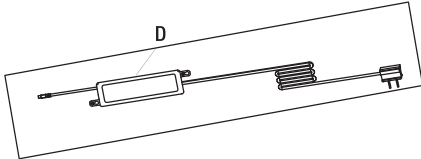

Figure 1
- Secure the LED driver (D) to the mounting surface via keyholes. See Figure 1 and Figure 2.